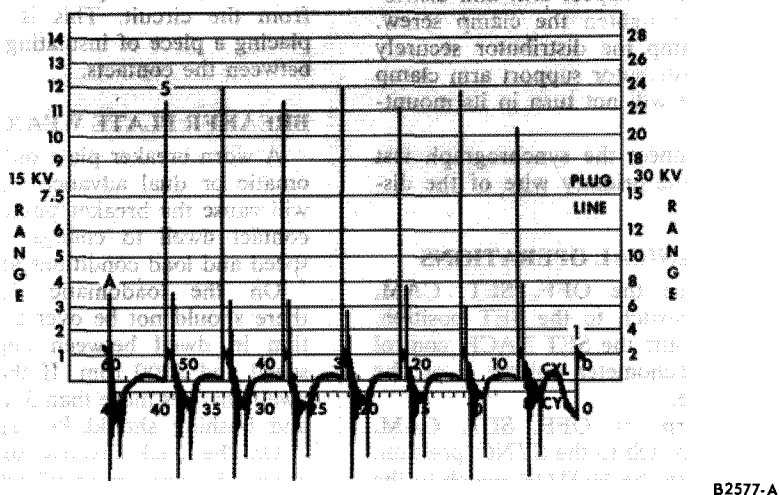

FIG. 14—Typical Dynamic Compression Pattern—No. 1 Cylinder
12. Slowly turn the CYLINDER SELECTOR control counterclockwise until the pattern shown in Fig. 14 is obtained.